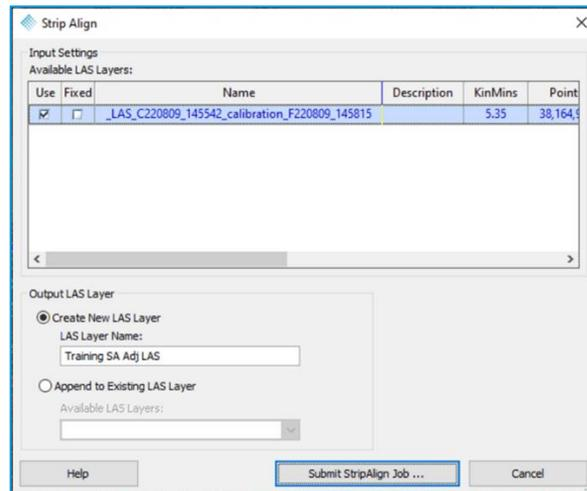

Figure 103 – Strip Align dialog
- 24. Select **Strip Align**  on the Sensor tab (Figure 102) to open the Strip Align dialog (Figure 103).